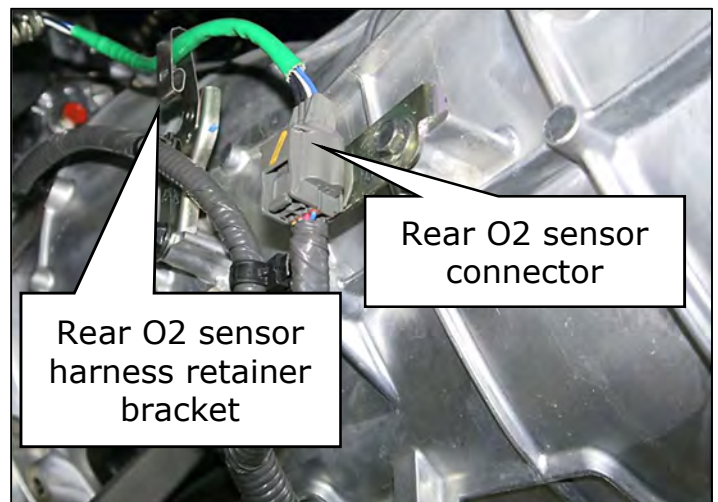

Figure 94
93. Connect the LH rear O2 sensor connector. (Figure 94)